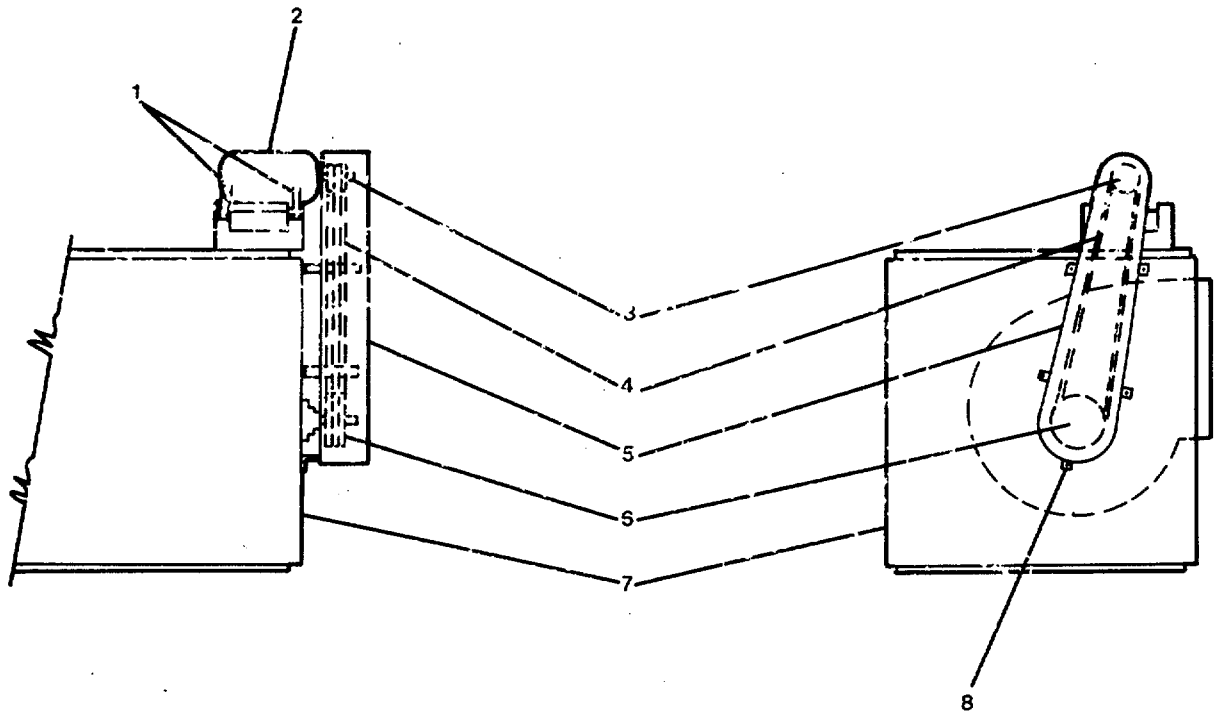

Figure 2-24. Motor and V-Belt Assembly (A/C #2).
- (1) Remove five screws (8, FIGURE 2-24) and remove belt guard (5) from corner of upper cabinet (7).
- (2) Loosen adjusting nuts (1) to release tension on V-belts (4). This will lower the motor (2).
- (3) Remove V-belts from around motor sheave (3) and blower sheave (6). Discard belts.
- (4) Install new V-belts (4) around blower sheave (6) and motor sheave (3).
- (5) Turn adjusting nuts (1) to move the motor (2) upward and tighten the V-belt.
- (6) Install the guard (5) to the upper cabinet (7) with screws (8).